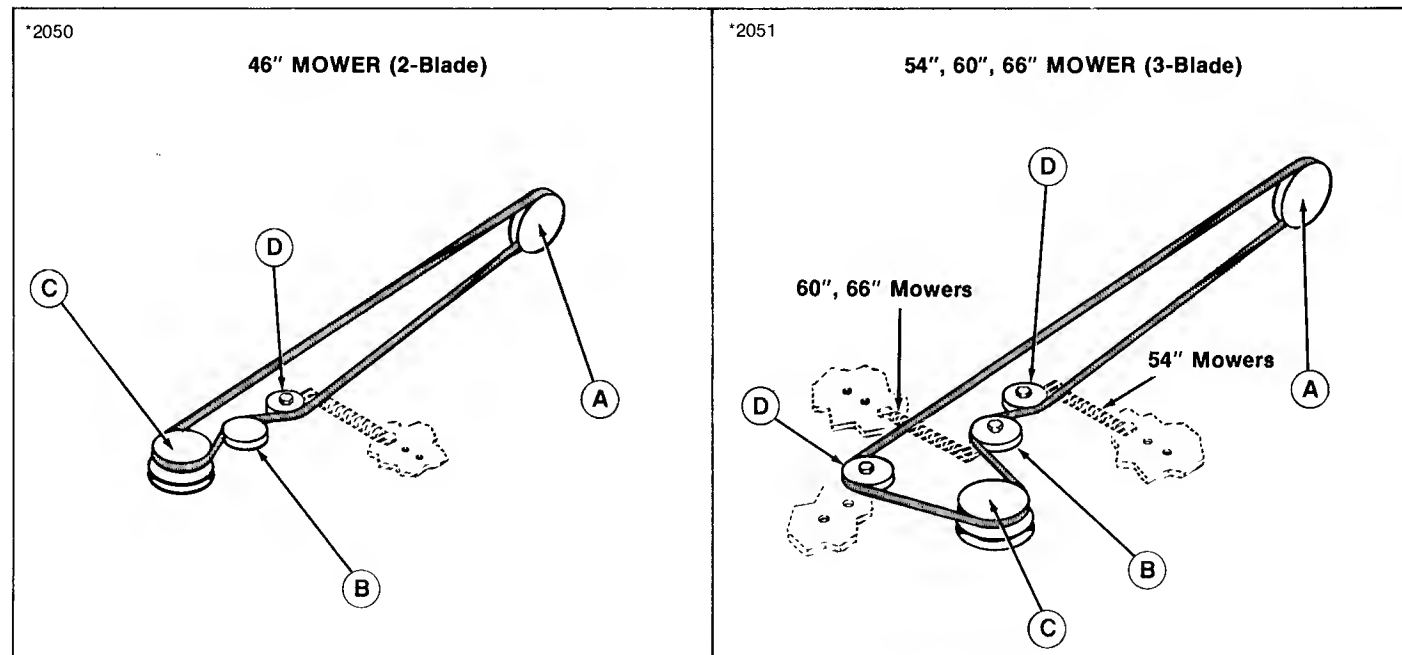

Figure 10.
5. Remove spring clip and clevis pin (C) securing mower hitch arm to rider bracket (each side).
6. Reverse steps to install mower. Check mower belt diagram as shown in figure 10.